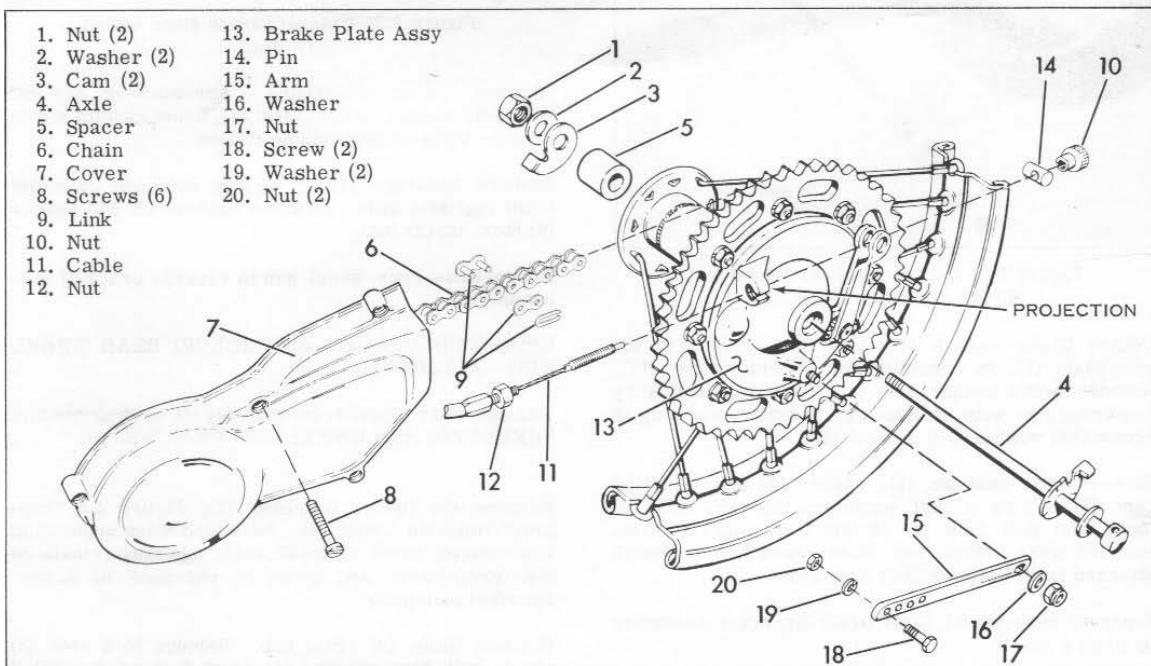
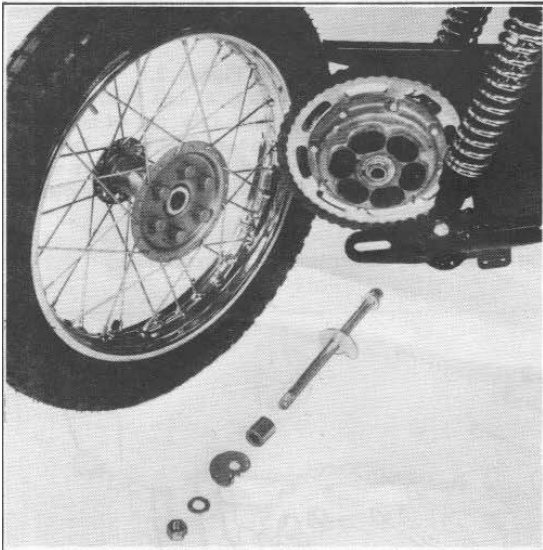

Figure 2.5. Removing and Installing Rear Wheel
Figure 2.6. Separating Rear Wheel and Brake-Sprocket Assembly
Remove rear axle nut (1), Figure 2.5, washer (2) and adjusting cam (3). Using a soft hammer, tap rear axle (4) loose and pull axle out of hub from opposite side. Remove spacer (5) from between right rear fork side and wheel. Separate rear wheel from brake assembly by prying apart as shown in Figure 2.6. Remove wheel.
Remove drive chain (6), Figure 2.5, as follows. Locate and remove connecting link (9). Pull chain free of rear sprocket, leaving chain on engine sprocket.